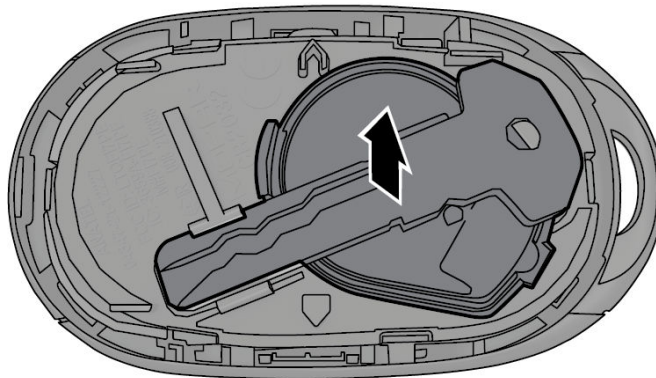

Fig. 2
3. Remove the emergency key from its housing Fig. 2.